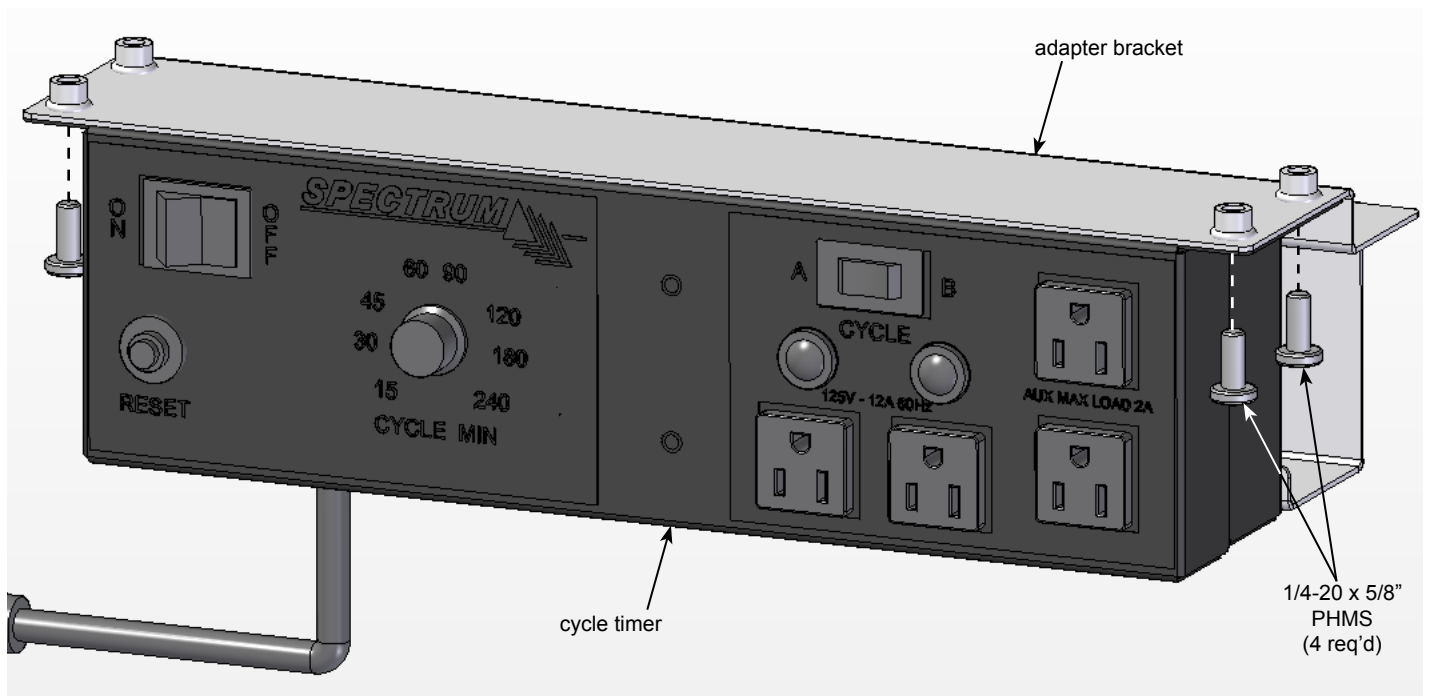

Figure 2A
1. Orient the cycle timer and adapter bracket as shown. **Figure 2A.**